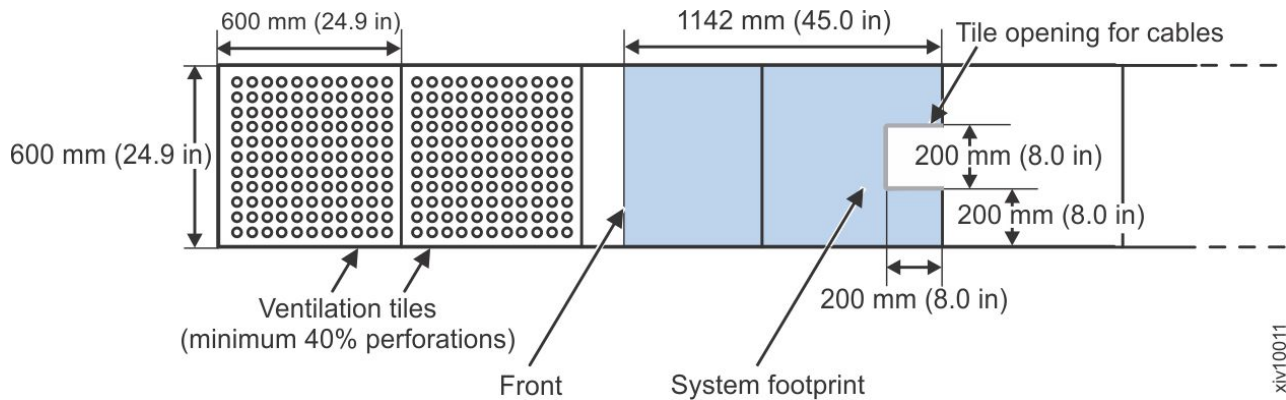

Figure 14. Raised floor requirements
perforated tiles immediately in front of the rack (see Figure 14).
3. Cut a 200 × 200 mm (8 × 8 in.) opening in the rear floor tile for under-floor cabling and electricity (see Figure 14).
4. To allow for ventilation for airflow and support system cooling requirements, have at least two tiles (and preferably more) in front of the FlashSystem A9000R system (see Figure 14). These tiles must have a minimum of 40% perforation.